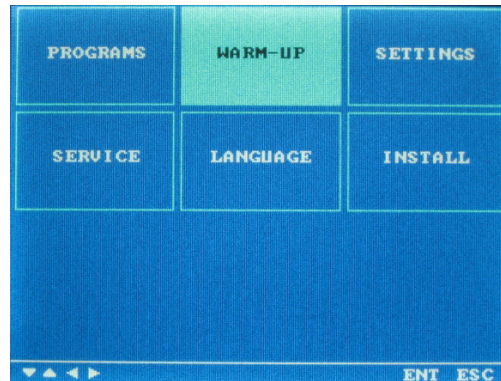

Figure 2
- Remove strut nuts and close the capsule. (Figure 2 and 3 below);